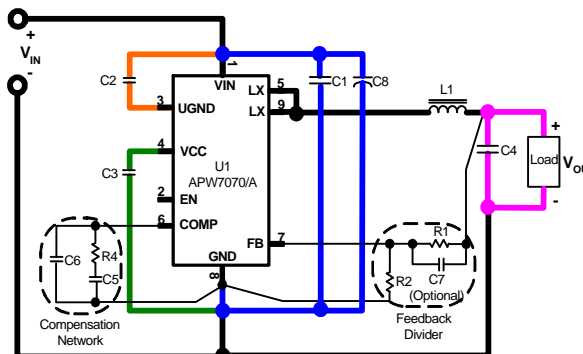

Figure 2. Current Path Diagram
In high power switching regulator, a correct layout is important to ensure proper operation of the regulator. In general, interconnecting impedance should be minimized by using short, wide printed circuit traces. Signal and power grounds are to be kept separating and finally combined using ground plane construction or single point grounding. Figure 2 illustrates the layout, with bold lines indicating high current paths. Components along the bold lines should be placed close together. Below is a checklist for your layout:
- In Figure 2, the loops with same color bold lines conduct high slew rate current. These interconnecting impedances should be minimized by using wide, short printed circuit traces.